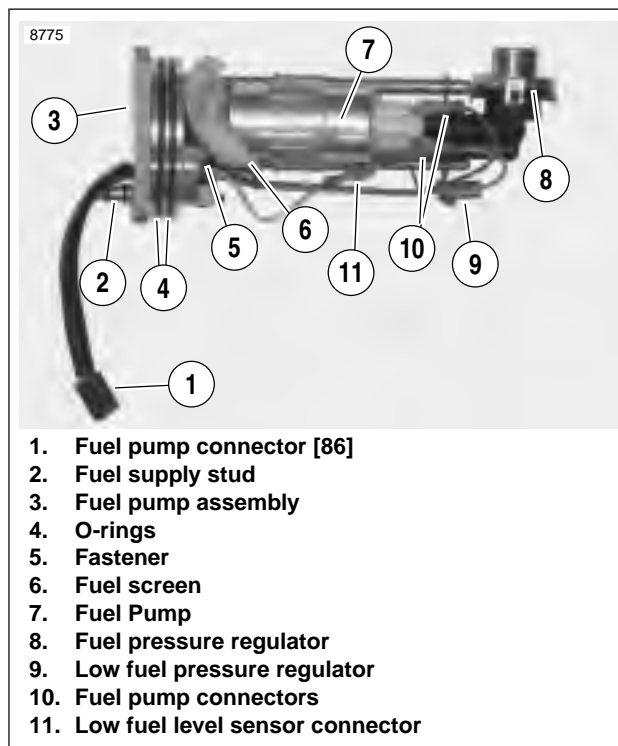

Figure 4-88. Fuel Pump Assembly (left side)
2. See Figure 4-88. Pry four tabs of clip holding fuel pressure regulator (8) in place. Detach regulator from regulator housing.
4. See Figure 4-88. Disconnect fuel pump connectors (10) and low fuel level sensor connector (11).
6. Pry fuel screen (6) from fuel pump (7).
11. See Figure 4-88. Connect low fuel level sensor wiring (11).
12. Connect fuel pump connectors (10). Connectors are two different sizes.
4. See Figure 4-88. Disconnect fuel pump connector (10) and low fuel level sensor connector (11).
- b. Insert push pin/safety pin (1), into connector as shown.
8. See Figure 4-88. Remove screw (5).
11. See Figure 4-88. Insert **new** fastener (5), through ground wire terminal and secure to fuel pump assembly. Tighten to 18-22 **in-lbs** (2.0-2.5 Nm).
16. See Figure 4-88. Connect low fuel level sensor connector (11).
17. Connect fuel pump connectors (10). Connectors are two different sizes.
1. See Figure 4-88. Replace o-rings (4). Lubricate **new** o-rings with **clean** engine oil.
2. Install **new** o-rings on fuel supply stud (2). Larger o-ring is located in groove closer to fuel pump.